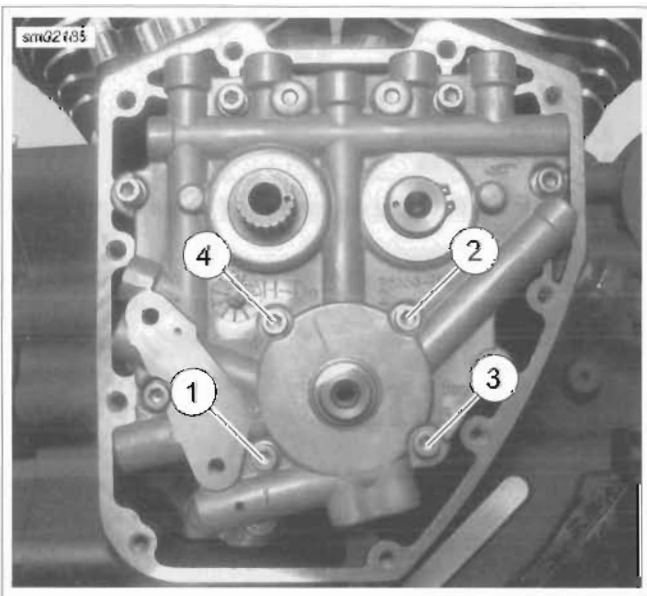

Figure 3-112. Oil Pump Torque Sequence
6. See Figure 3-112. Secure oil pump.